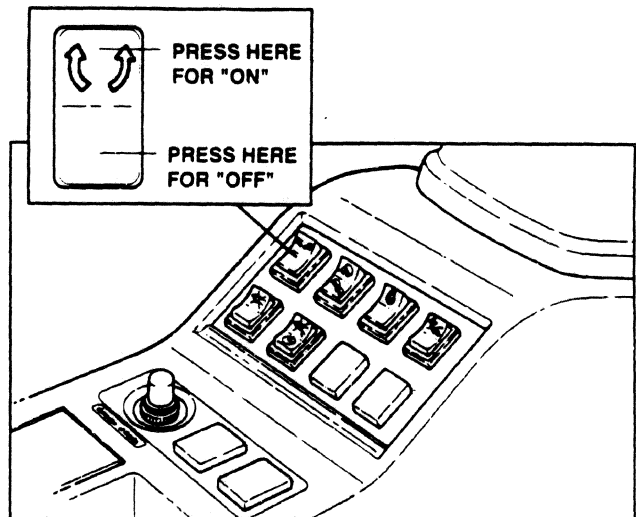

FIGURE 2.11
1. Swing Flasher Switch- FIGURE 2.11